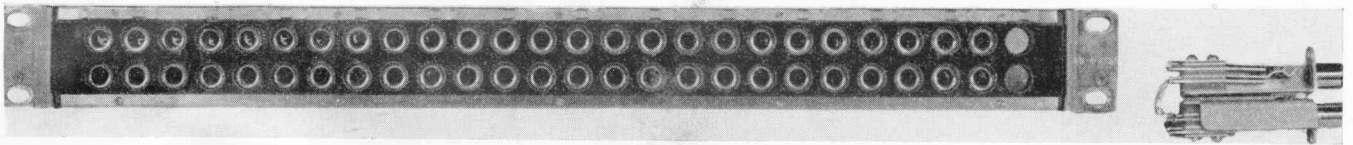

Figure 1-14. Jack Mounting Strip Navy Type -491394, Front View With One Jack Navy Type -491395 Removed
(10) JACK MOUNTING STRIP, NAVY TYPE -491394 (*Figure 1-14*).—The Jack Mounting Strip Navy Type -491394 is a size A panel which includes mounting for 52 Telephone Jacks, Navy Type -491395, arranged in two rows of 26 jacks each. Wiring, which is installed by the installation activity, is so connected that horizontally adjacent pairs connect to the two sides of a single circuit. Only the tips of the twin plug patchcords make connection. The vertically adjacent jacks are connected in parallel in such a fashion that when a patchcord is inserted into the top pair, the normal circuit to the load is broken and a new connection substituted; but when a patchcord plug is inserted into the bottom jacks, the normal circuit is unaltered and the patchcord is then in parallel. Thus, a total of 13 circuits may be connected into any one Jack Mounting Strip.